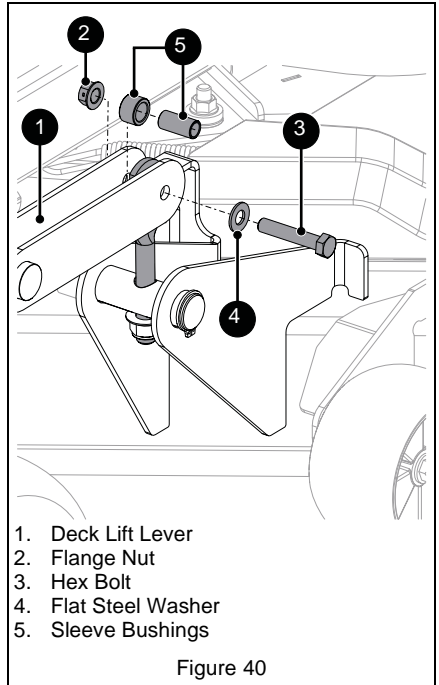

Figure 40
- Remove one flange nut, one hex bolt, one flat steel washer and two sleeve bushings from deck lift lever. Retain hardware. See Figure 40.